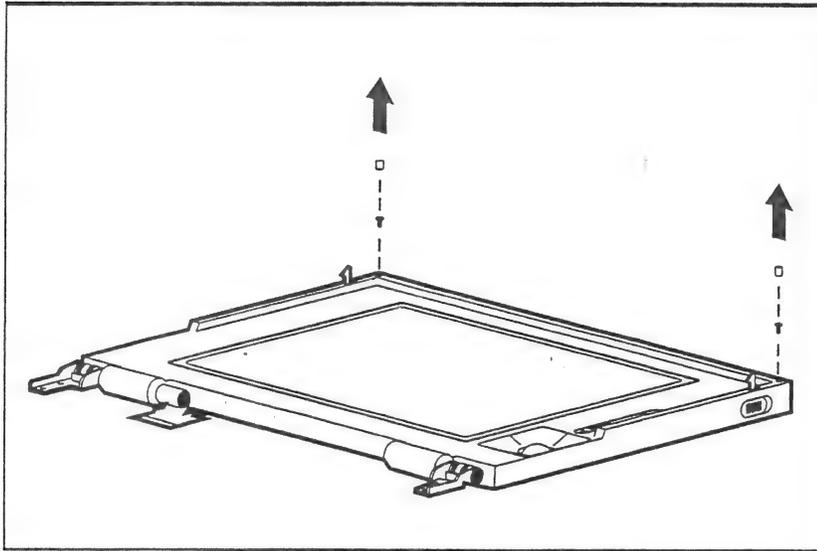

Figure 2-14. Removing the Screws
2. Remove the two screw covers at the top of the display (Figure 2-14).
3. Using a JIS-0 screwdriver, remove the two screws located at the top of the display panel (Figure 2-14).